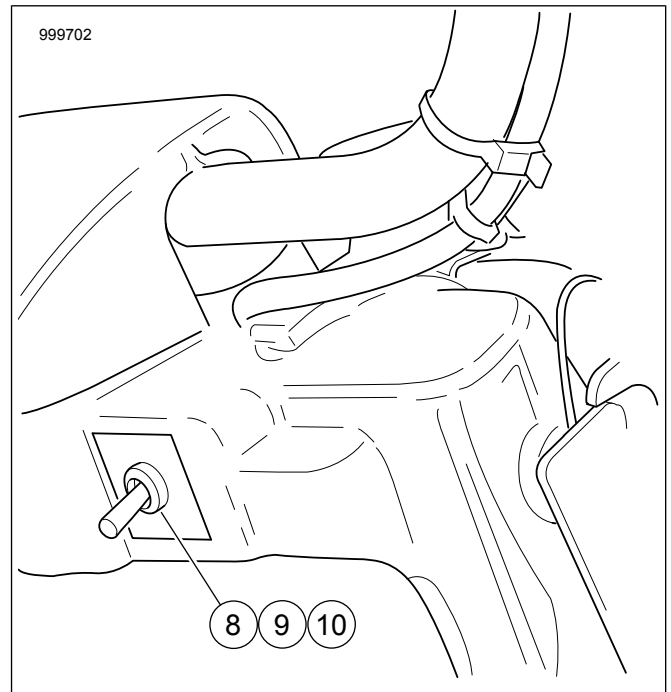

Figure 6. Non-Fairing Switch Location
- b. **Non-Fairing vehicles:** See Figure 6. Install nut (8), label (9), and switch (10) in right access hole. Plug in switch to harness which is located under headlamp nacelle. On **FLRT**, connector [205] is located under fuel tank in plastic wire caddy. See service manual.